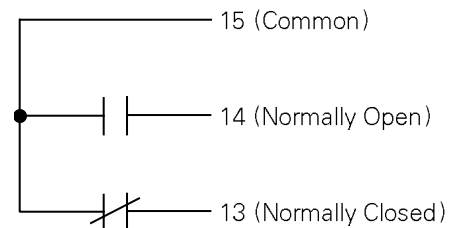

Figure 2. Bell Alarm–Alarm Only connections on the right terminal block. The contacts are shown in the reset state.
The Bell Alarm–Alarm Only provides normally open (NO) and normally closed (NC) outputs available at the terminal block on the right side of the breaker, as illustrated in Figure 2. The outputs change state whenever a breaker trip occurs. This trip can be caused by an overcurrent condition detected by the Trip Unit. This trip can also be generated by the Shunt Trip, Shunt Trip with Lock out, or Undervoltage Release, if installed with a MicroVersaTrip Plus or MicroVersaTrip PM Trip Unit and if the appropriate DIP switches have been set on the back of the Trip Unit. Power+ Trip Units can only activate the Bell Alarm–Alarm Only for a protection trip.
- 6. Connect the control wiring for the Bell Alarm–Alarm Only at the right terminal block, as illustrated in Figure 2.